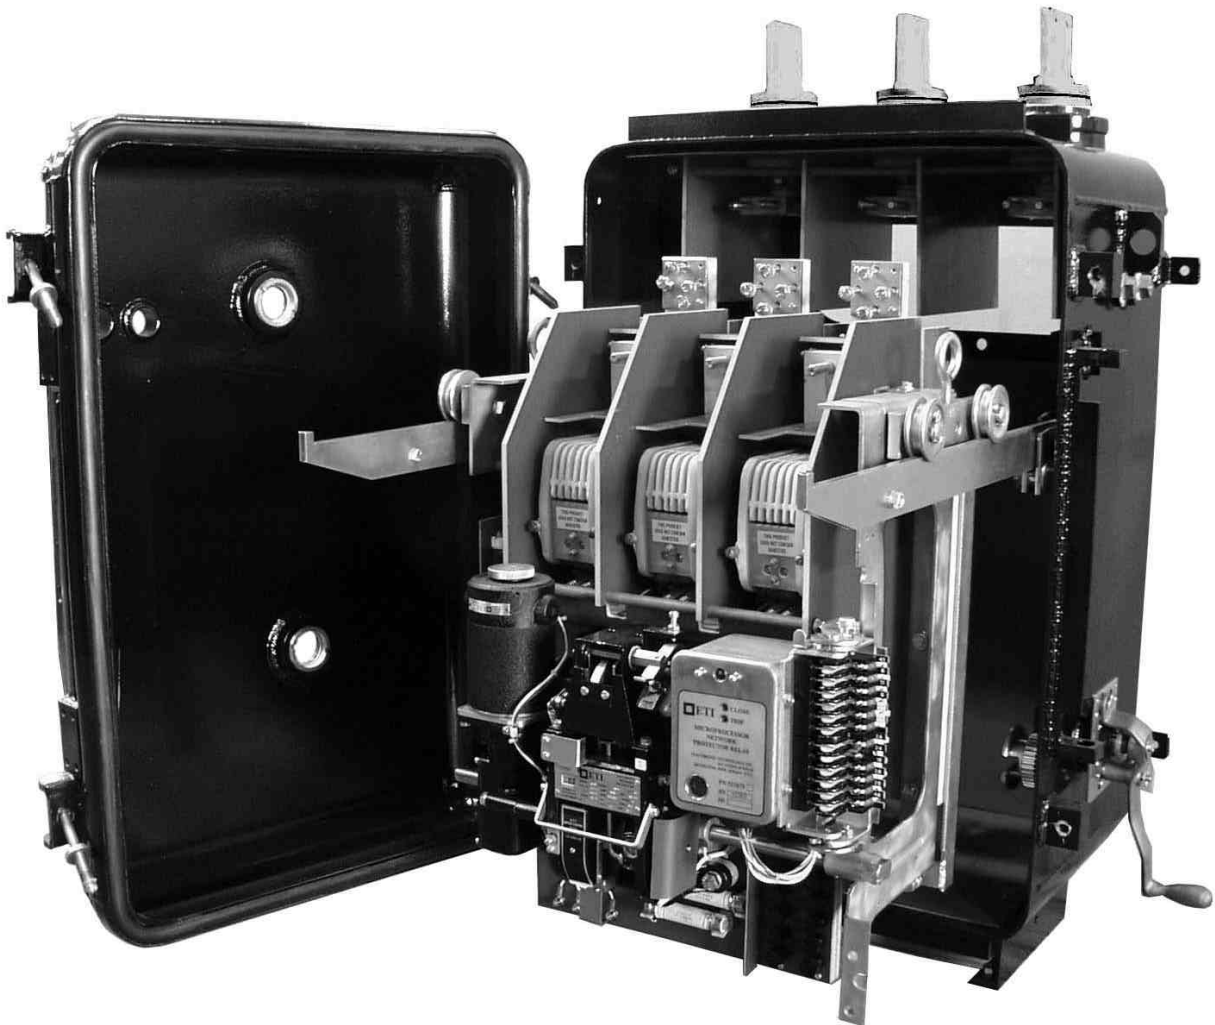

Figure 1 - Removable Unit Rolled Out On Rails
E. Removing the Breaker Unit (see Figure 1 and 2)